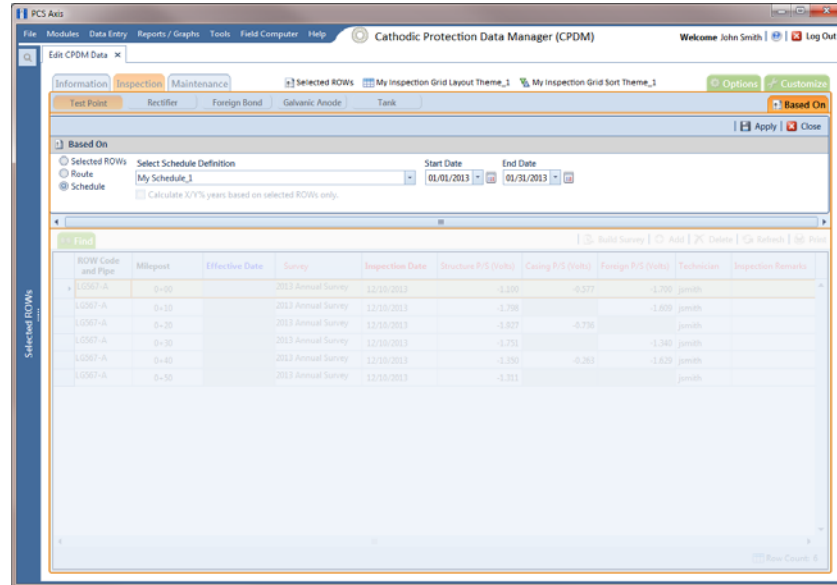

Figure 7-37. Based On Schedule
- 5 Click the **Based On** tab **Based On** and then select **Schedule** (Figure 7-37, page 223).